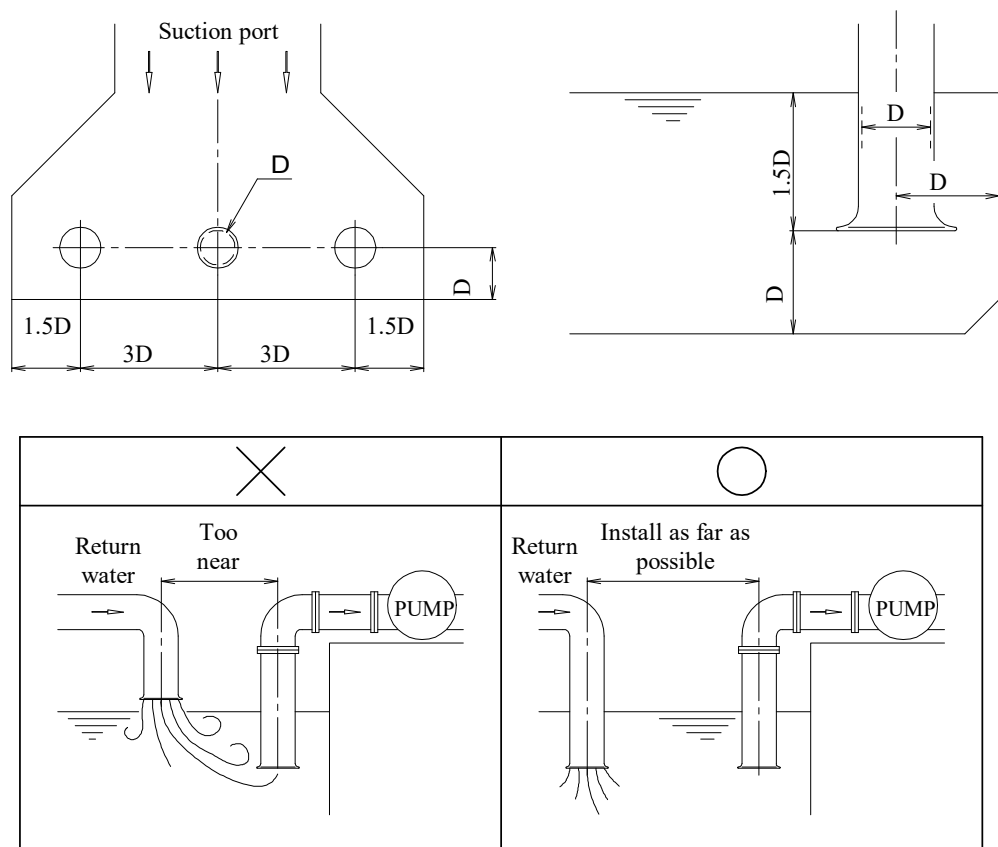

Fig.3-1 Induction pipe arrangement
- Install the induction pipe orifice in the depth of more than 1.5 times of the pipe diameter D from the water surface. And keep space beyond the pipe diameter from the bottom of the suction sump to the water induction pipe orifice (Fig.3-1). Then, take more than 1.5 times distance of D from the side wall to the induction pipe.
- When installing two and more pump in the same suction sump, take the pitch between the suction pipe more than three times of D (Fig.3-1).